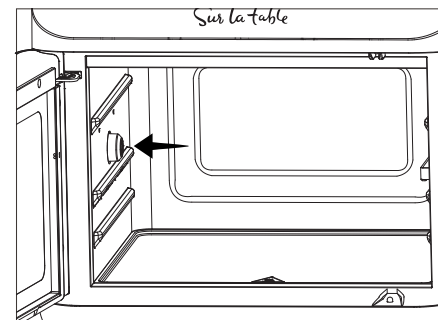
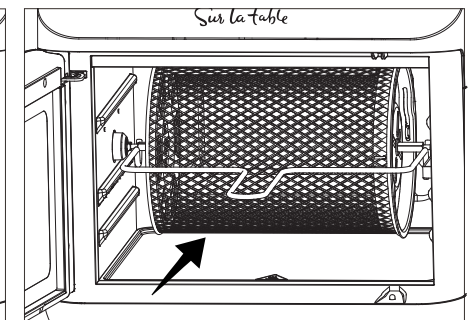

Figure 1
Figure 2
- Using the Rotisserie Holder/Handle (I), place the shaft of the accessory (F, G or H) into the left coupler (fig. 1) and place the right end on the bracket slot (fig. 2)